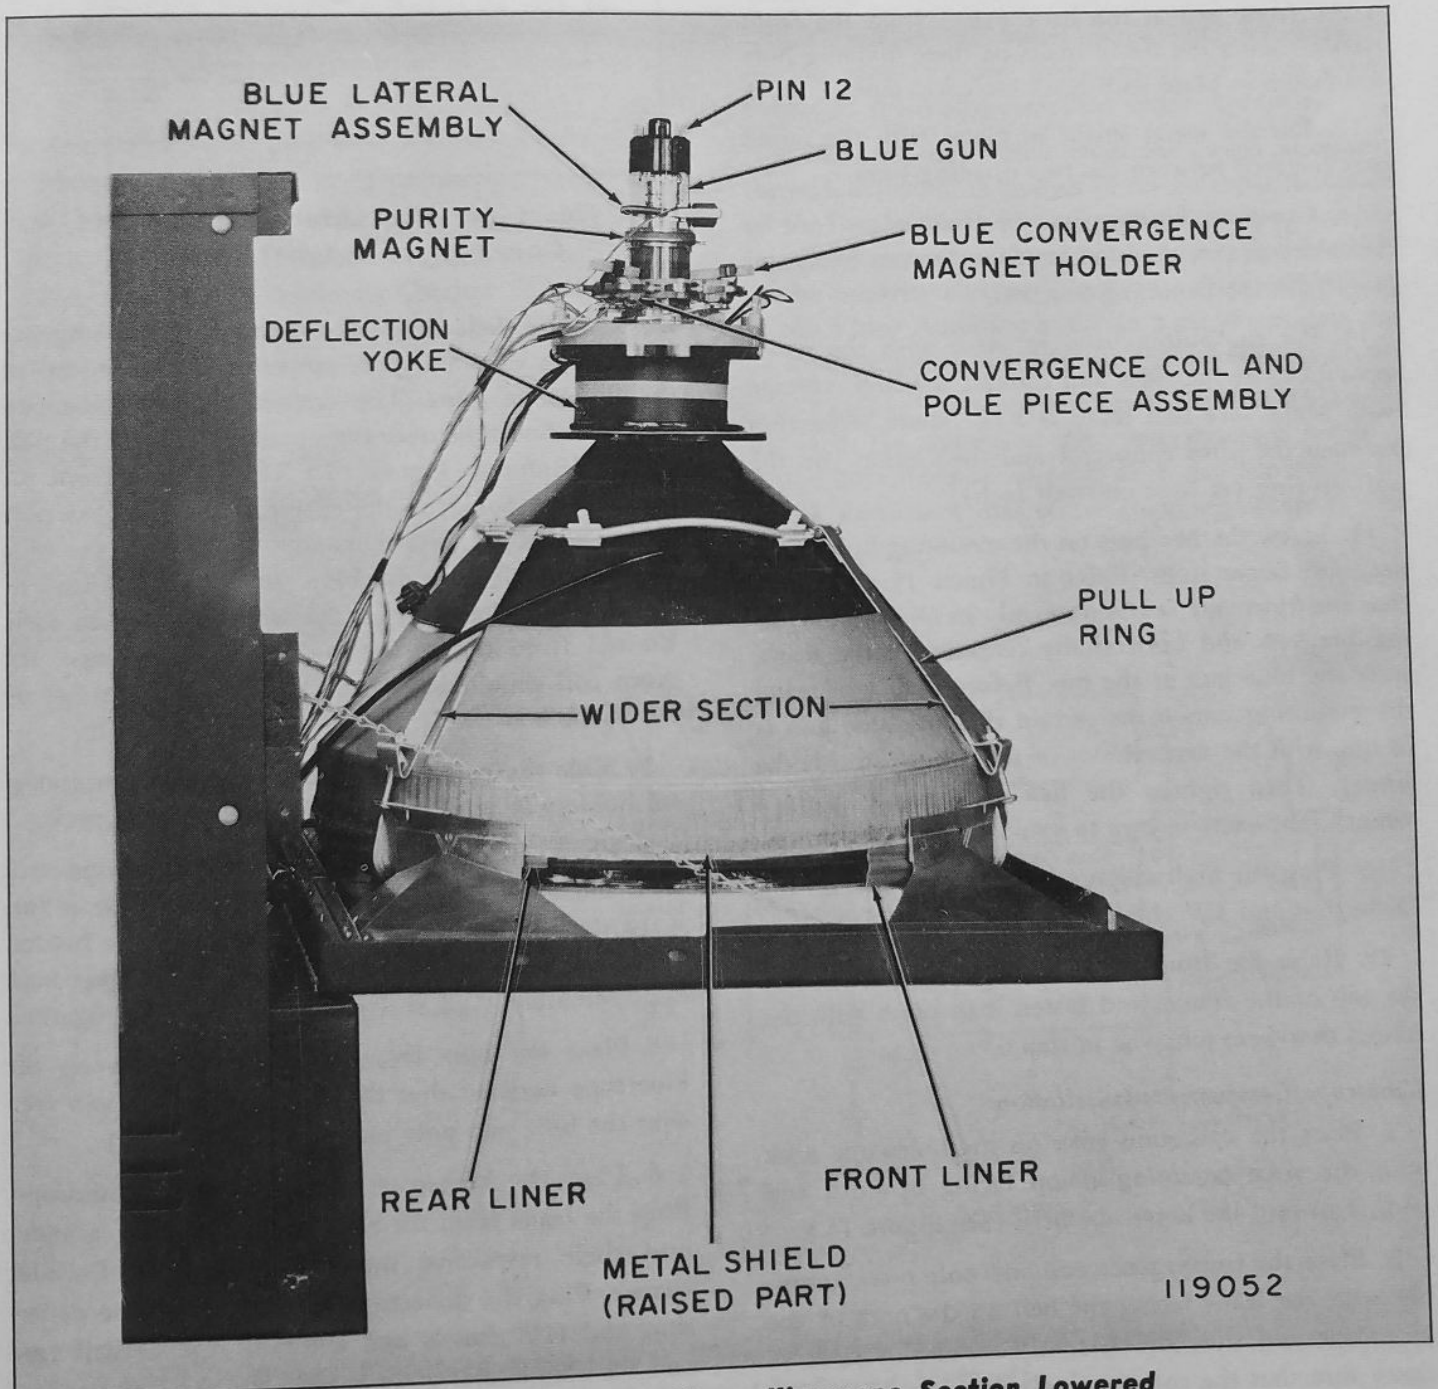

Figure 15. Front Quarter View, Kinescope Section Lowered
6. Remove the three screws in each of the upper right and left corners of the frame (two screws are on the top of the frame and one is in the front) and the two screws that are on each side of the front panel near the center. Now lower the loosened kinescope section of the front frame to the limit of its anchor chains. (See Figure 15.)
8. Remove the four hex nuts from the bolts holding the pull up ring assembly to the kinescope mounting brackets, see Figure 15, and lift the pull up ring assembly off the kinescope.
11. With the blue gun, at the top of the kinescope, in front (pin 12, see Figure 15) mark the kinescope at the front and at the back (180° from the front mark). Center the shield liners on these dividing lines and fasten in place with black electrical tape.
15. Screw the hex nuts on the mounting bolts until they are finger tight. Refer to Figure 15 and check that the kinescope is resting firmly in all four mounting brackets and horizontally centered in the mask, with the blue gun at the top. Before finally securing the mounting nuts make certain that the blue gun is in line with the vertical axis of the tube (towards the front). Then tighten the hex nuts firmly with a wrench, but exercise care to avoid excessive tightness.